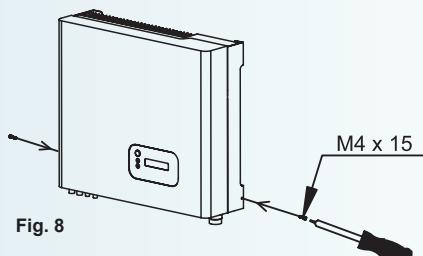

Fig. 8
- Fit the two safety screws in the locations provided on the sides of the device (**Fig. 8**).